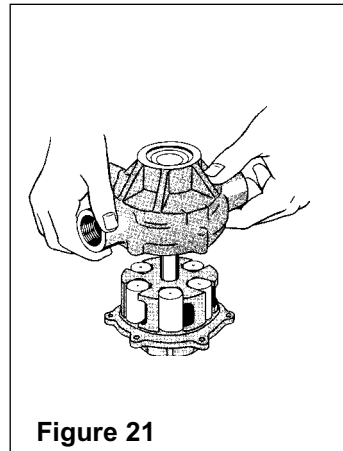
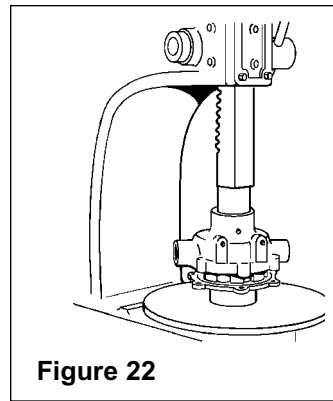

Figure 21
Figure 22
2. Remove the assembled portion from the arbor press and invert it on the press table with the Bearing Support Tool under the bearing. Then place rollers in the roller slots as close to center of rotor as possible. Place the pump body over rotor and shaft, and carefully ease the end of the shaft past the lips of the seal in pump body (Figure 21). Center Bearing Support Tool with counter bored end down on inner race of ball bearing, and slowly press the pump body down to fit the end plate (Figure 22).